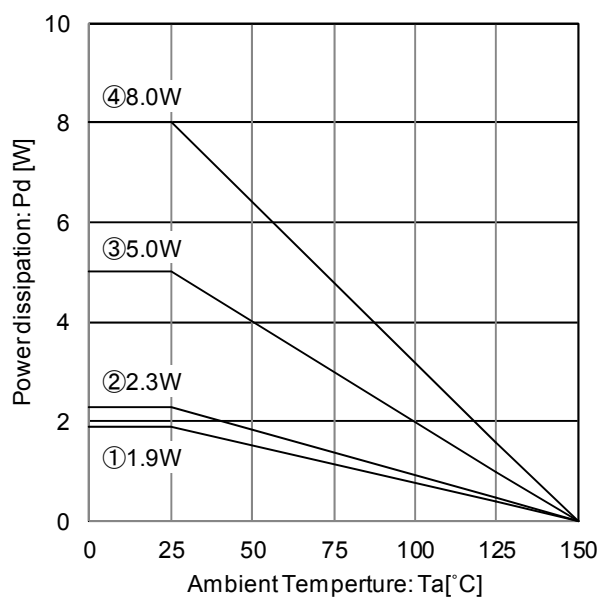

Figure 21. Package data of TO263-5F
Refer to the heat mitigation characteristics illustrated in Figure 21, 22 and the power dissipation under actual operating conditions should be taken into consideration and a sufficient margin should be allowed for in the thermal design. The amount of heat generated depends on the voltage difference across the input and output, load current, and bias current. Therefore, when actually using the chip, ensure that the generated heat does not exceed the Pd rating. Even if the ambient temperature Ta is at 25 °C, it is possible that the junction temperature Tj reaches high temperatures. Keep the whole operating temperature range within $T_j \leq T_{jmax}$.
- Calculation example : with TO263-5F package , Ta = 105 °C, V_{CC} = 13.5 V, V_O = 5.0 V, board ③ (Figure 21.)
In case of board ③ in Figure 21, Ta = 105 °C
At Ta = 105 °C with Figure 21 ③ condition, the calculation shows that 211 mA of output current is possible at 8.5 V potential difference across input and output.
- Calculation example : with T_c (bottom) = 80 °C, V_{CC} = 13.5 V, V_O = 5.0 V, I_O = 200 mA, board ③ (Figure 21.)